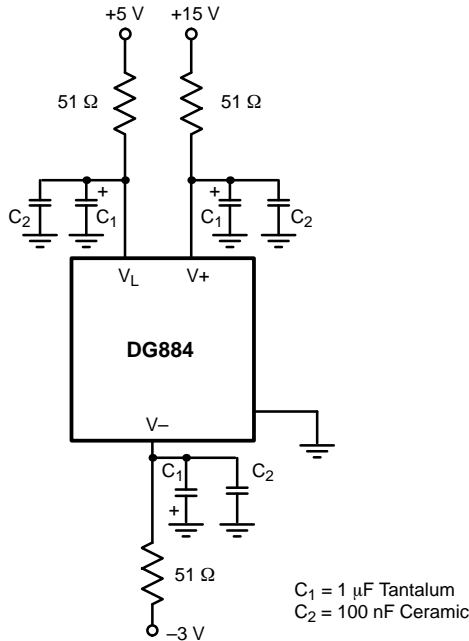

FIGURE 14. DG884 Power Supply Decoupling
- 4) Additional high frequency protection may be provided by 51-Ω carbon film resistors connected in series with the power supply pins (see Figure 14).